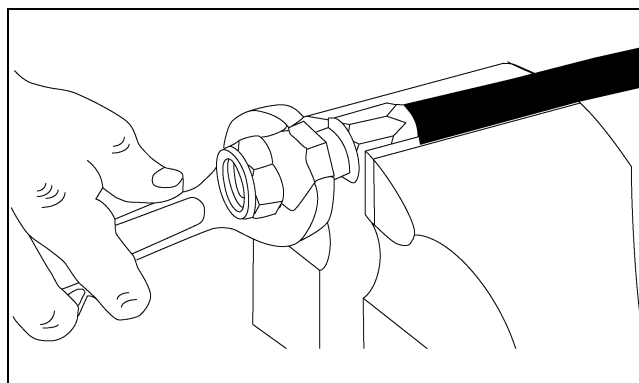

Figure 5F
- f. Screw the nipple clockwise into the socket. (See Figure 5F.)